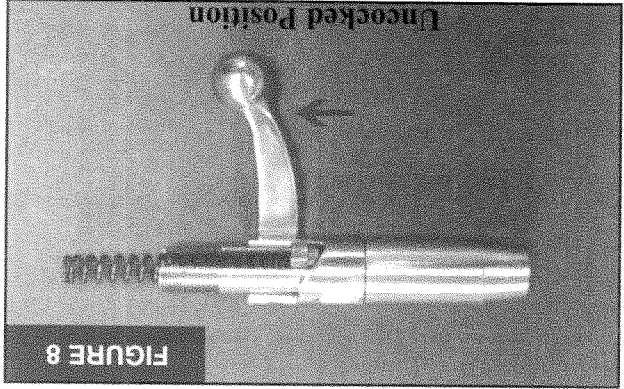

FIGURE 8
4. Move bolt to the uncocked position (Figure 8).